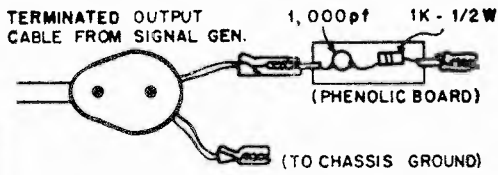

FIG. 5 - GENERATOR COUPLING NETWORK (REFER TO STEP NO.8)
8. Disconnect generator output leads from grid of the first I-F amplifier and couple them to the mixer tube (V-13) of the VHF tuner, using the signal injection shim described below. If this is impractical, connect the generator output leads to the I-F mixer point on the tuner, using the coupling network shown in Fig. 5